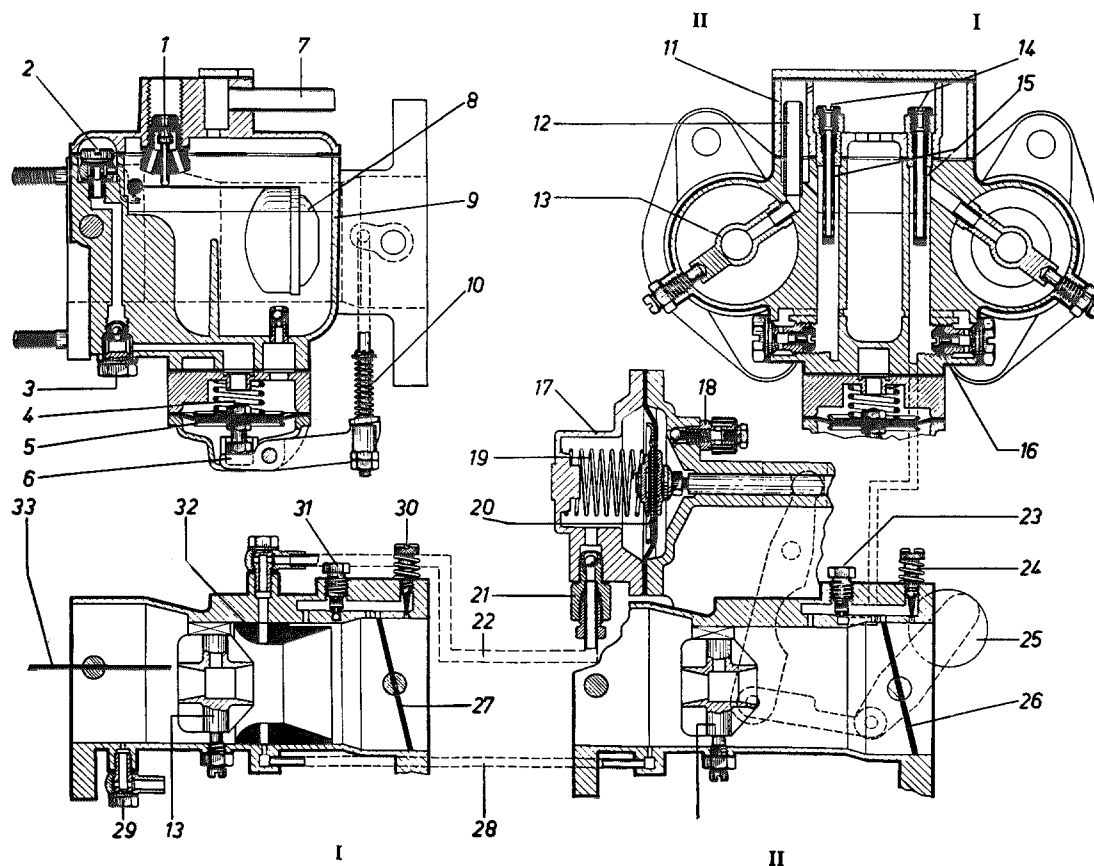

Fig. 07-0/44
Particular importance attaches to the overflow control tube (12) in stage 2 through which the fuel mixture must pass on its way to the outlet tube of the diffuser (13) of stage 2. This device is necessary in order to counteract the effect of the partial vacuum which is formed in the air suction tube between carburetor and air filter. When the throttle valve of stage 2 is closed, this partial vacuum acts also on the main carburetion system of this stage and would flood it, i. e. without the overflow control tube, fuel would be drawn from the diffuser and – mixed with inlet air – would pass to stage 1 through the air suction tube (Fig. 07-0/44).